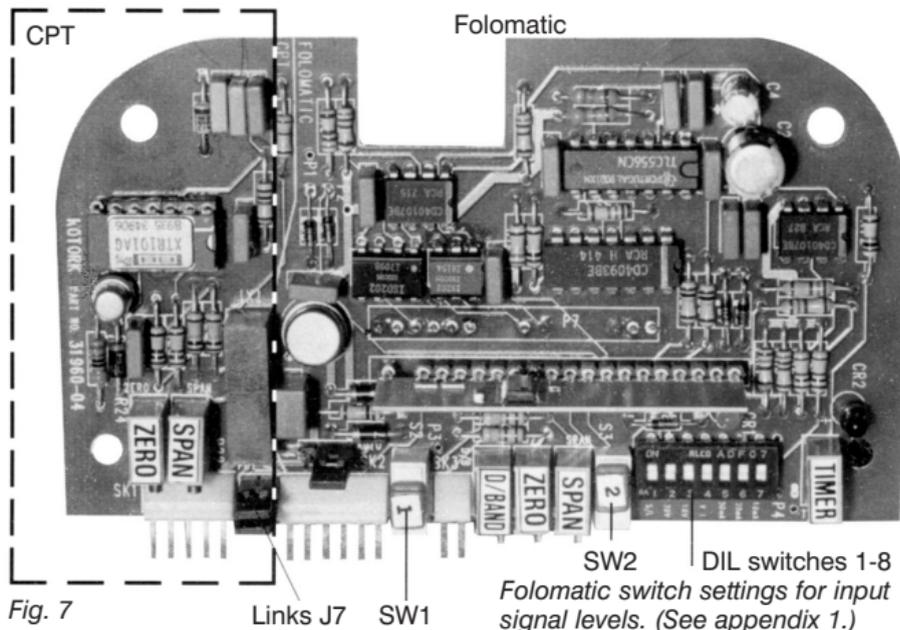

Fig. 7
- a Using Fig 7 locate the duel links J7. For a clock to close valve and low signal at closed and
Using Fig 7 locate switches 1 and 2, select as follows:
2 Determine what control input signal is going to be used, refer to Fig. 7 and locate the block of DIL switches and select range required.
3 When using a 4-20mA control loop signal it is possible to select whether the actuator will "stay put" or fail to the 4mA end of travel on loss of signal. Switch No 1 on folomatic DIL switches to be selected 'on'. Switches P1 and P2 on **Main Board DIL Switches** (Fig. 7). Both selected 'on' gives fail to the close end of travel. Both selected 'off' gives fail to the open end of travel. One switch 'off' and one 'on' will give 'stay put'.